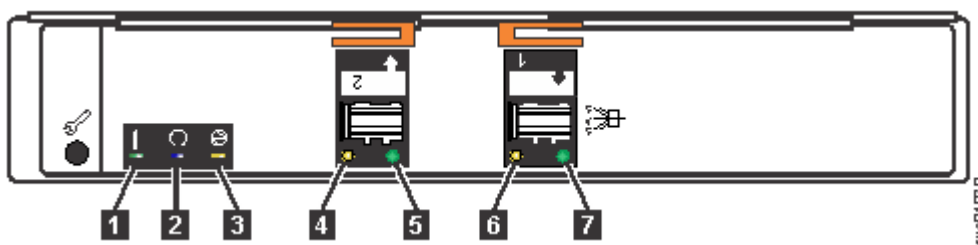

Figure 151. Expansion canister
An expansion canister provides SAS connectivity between the 5U expansion enclosure and control enclosure system. If either of the two expansion canisters has a failure, the other expansion canister assumes the full I/O load. Figure 151 on page 200 shows the features of an expansion enclosure.
3. Release the lower cable management arm to swing it out of the way, as described in Figure 151 on page 200.